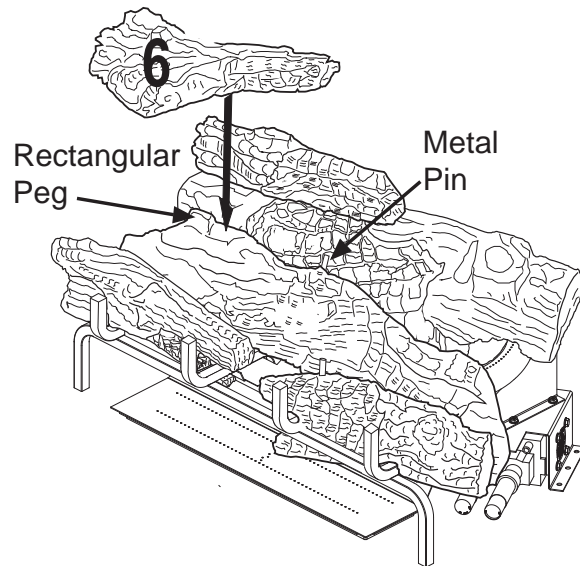

Figure 26 - Installing Log #6
6. Place the left top forked log (#6) on the top of the middle log (#2). Match the rectangular projection on top of the middle log (#2) with the rectangular hole on the bottom of the left top forked log (#6). Match the metal pin on the top of the middle log (#2) with the round hole in the bottom of the left top forked log (#6). See **Figure 26**.